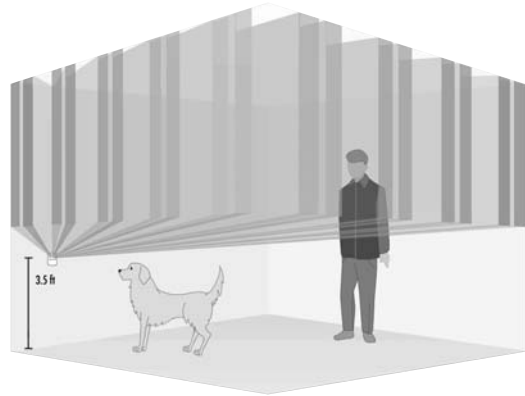

Figure 3. Pet Alley Application
- For installations where pets are present, mount the sensor upside down about 3.5 feet above the floor (see Figure 3). Leave the factory-installed undercrawl mask in place to block any detection pattern directed at the ceiling.